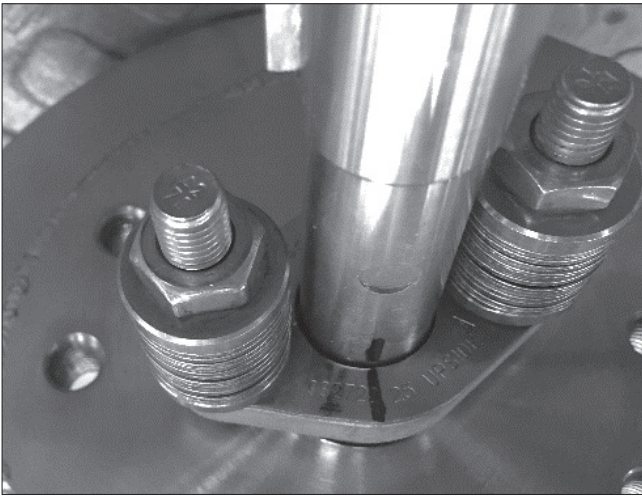

Fig. 11 Marking of shaft position to gland
- Manually mark the position of the stem to the stuffing box with a waterproof marker. (See Figure 11)